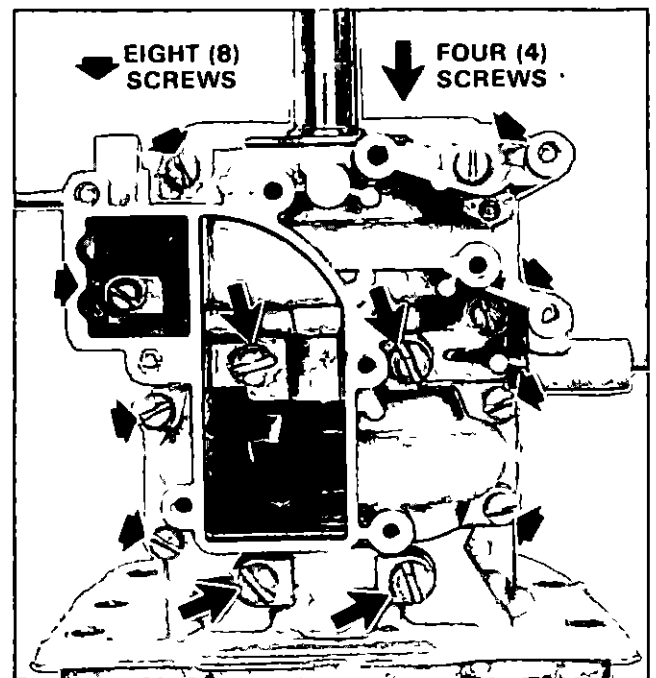

Figure 17. Removing Crankcase Cover Screws.
A Remove eight (8) 1/4" dia screws and four (4) 5/16" dia screws that secure crankcase cover to cylinder Figure 17